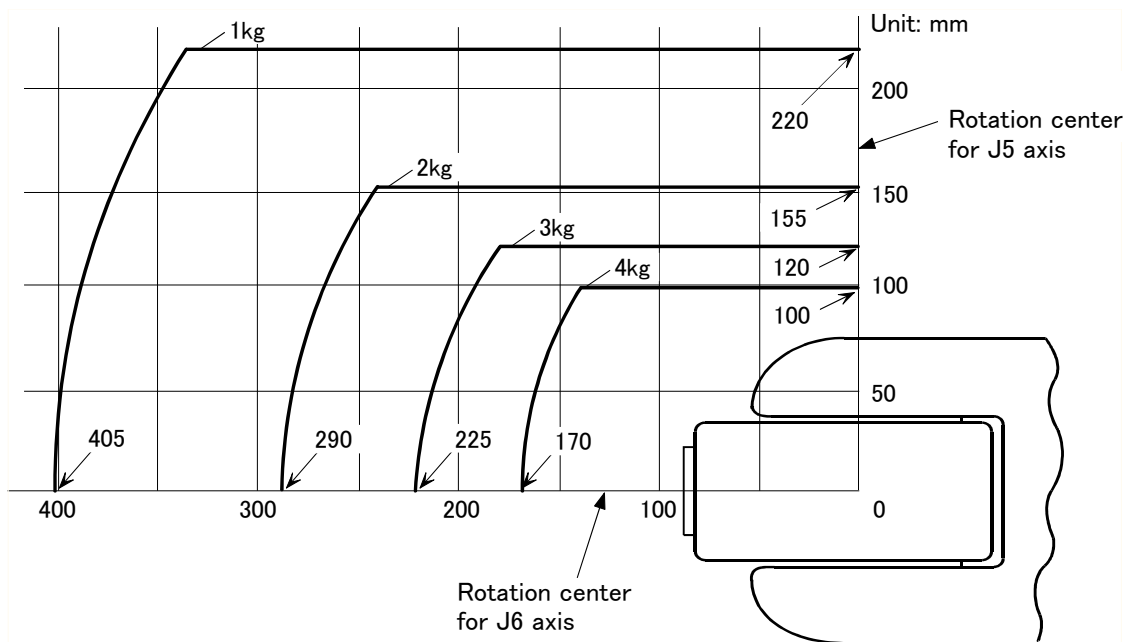
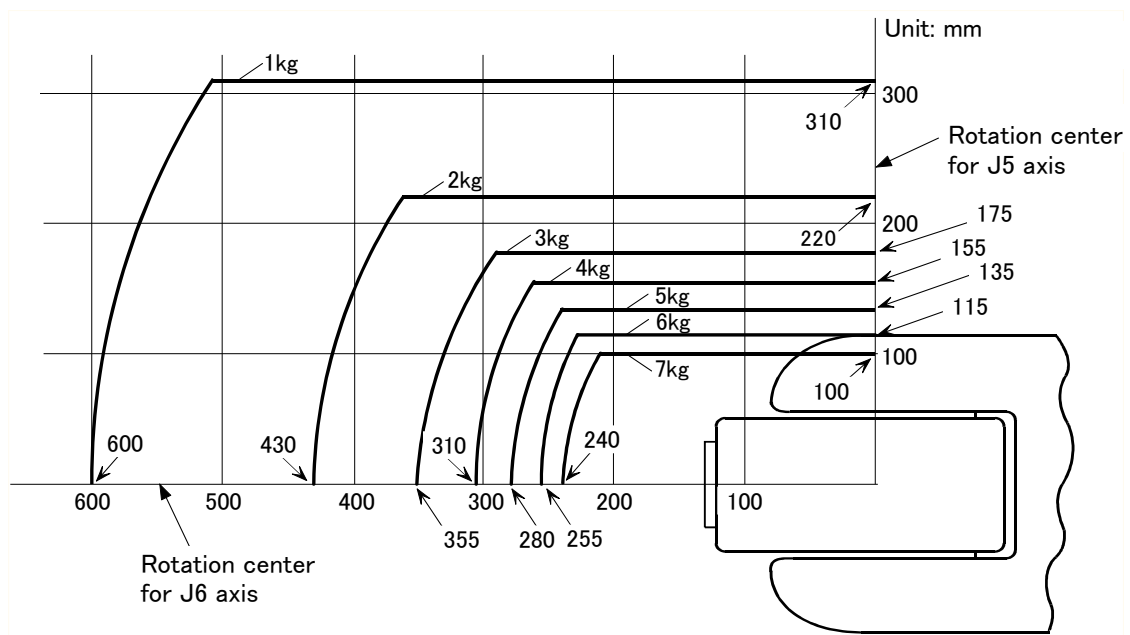
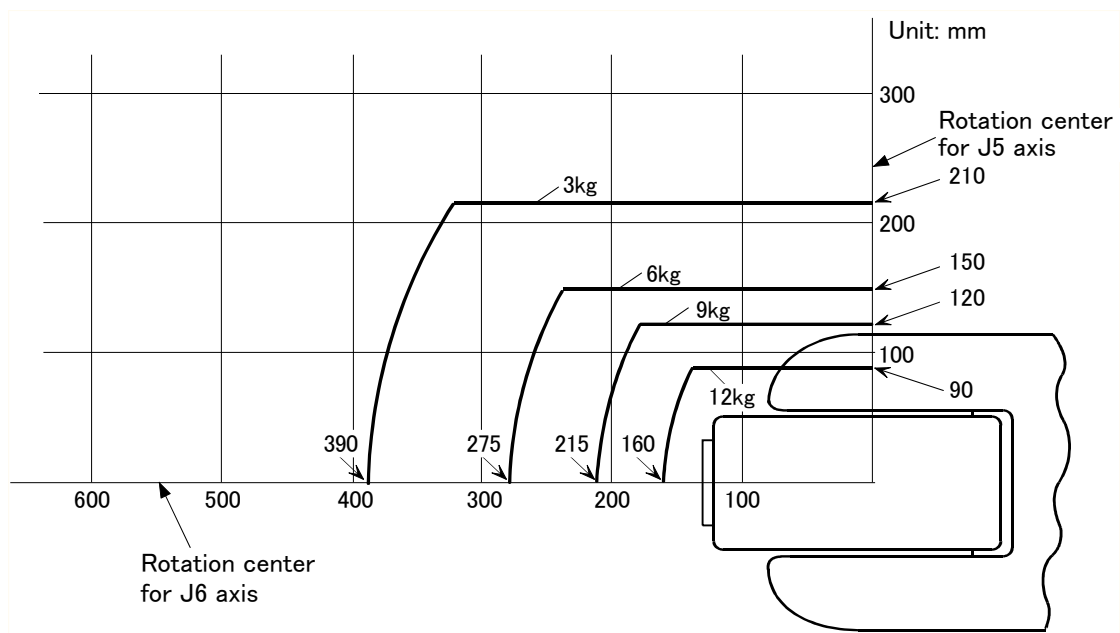
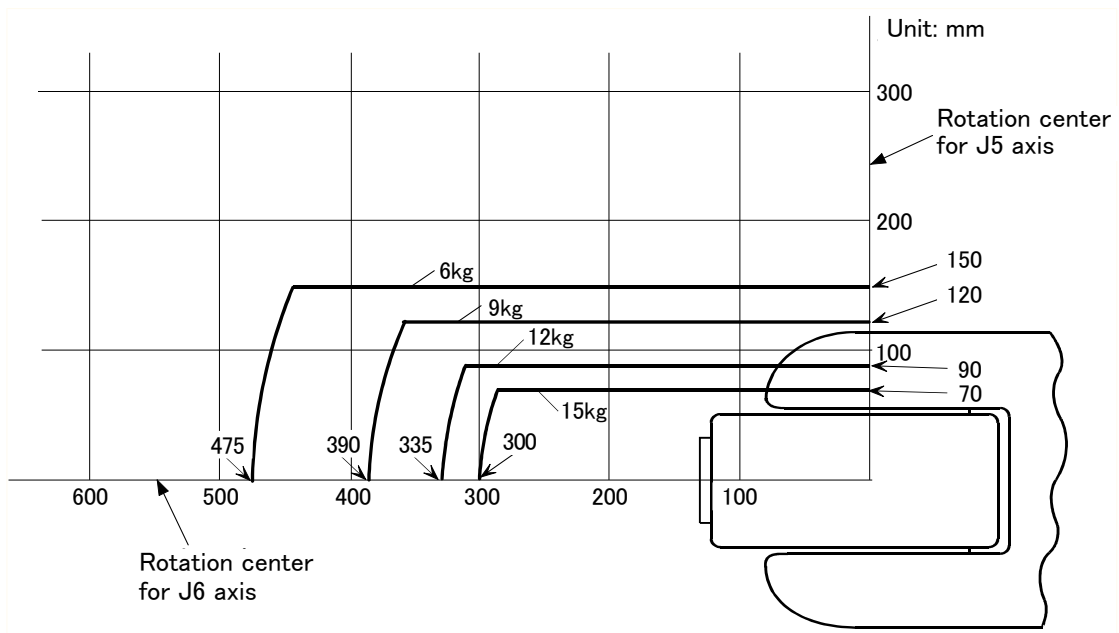

Fig.2-1 : Position of center of gravity for loads (for loads with comparatively small volume): RV-4F/4FL/4FJL
Fig.2-2 : Position of center of gravity for loads (for loads with comparatively small volume): RV-7F/7FL/7FLL
Fig.2-3 : Position of center of gravity for loads (for loads with comparatively small volume): RV-13F/13FL
Fig.2-4 : Position of center of gravity for loads (for loads with comparatively small volume): RV-20F
- (1) The tooling should have the value less or equal than the smaller of the tolerable inertia and the tolerable moment found in Page 9, "2.1.1 Basic specifications".
- (2) Fig. 2-1, Fig. 2-2, Fig. 2-3 and Fig. 2-4 shows the distribution dimensions for the center of gravity in the case where the volume of the load is relatively small. Use this figure as a reference when designing the tooling.
- (3) Even if the load is force, not the mass, design the tooling so that moment does not exceed the allowable moment. Refer to Page 9, "2.1 Standard specifications" for details of allowable moment value.